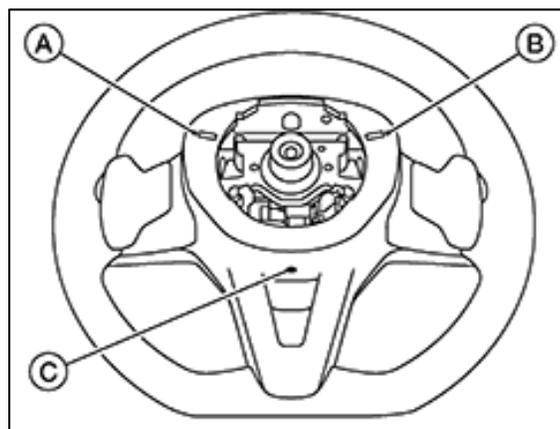

Figure 2
3. Locate the two (2) access holes on the back of the steering wheel and the one (1) access hole on the bottom of the steering wheel (Figure 2).
7. Turn the steering wheel in the opposite direction, and then repeat steps 4 - 6 to release spring B (Figure 2 on page 3).
8. Using the Air Bag Release Tool (A), gently push the bottom pawl (B) and gently tilt the bottom of the driver airbag module outward so that the pawl will not re-engage, and then pull out the driver airbag module.